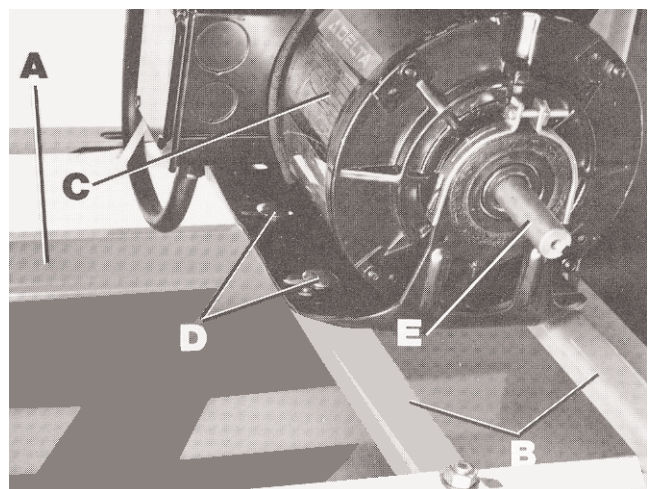

Fig. 2A
1. To make the motor assembly easier, turn stand (A) Fig. 2A, on its side with two horizontal bars (B) down as shown.
2. Position motor (C) Fig. 2A, on two horizontal support bars (B) as shown, and fasten with four 3/4" long carriage bolts, two of which are shown at (D), and four flanged nuts. **IMPORTANT: MAKE CERTAIN MOTOR SHAFT (E) IS ON THE SAME SIDE OF THE STAND AS THE LARGE OPENING IN THE TOP OF THE STAND BEFORE TIGHTENING CARRIAGE BOLTS (D).** Further motor alignment will be necessary after band saw is fastened to stand.